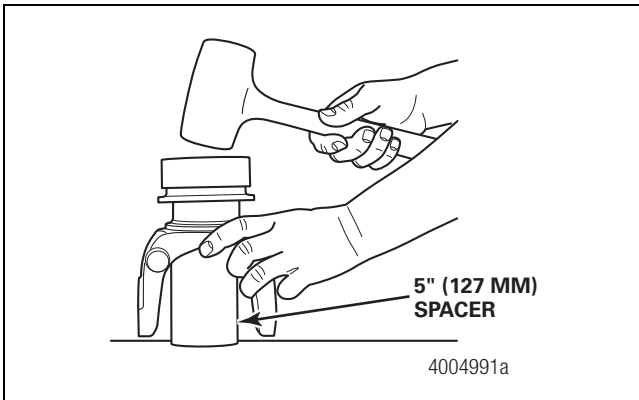

Figure 9
- **If you do not have a press:** Position the yoke on a five-inch (127 mm) spacer on a workbench. Use a dead-blow hammer and sleeve driver, part number 2728T2, to install the sleeve into the yoke. Figure 9.